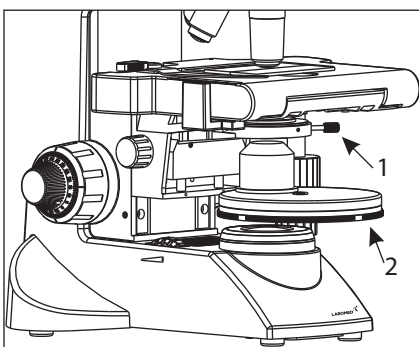

Fig. 6
1. Remove the condenser from its position by loosening the screw (1) using Allen wrench 1.5mm on right side of the condenser bracket as shown in figure 6 .
3. Secure it back with screw (1). The phase turret can be adjusted at any desired phase annulus (10x, 20x, 40x & 100x) by turning the thumb wheel (2) to the desired position. There is also an '0' setting on the thumb wheel for bright field application.